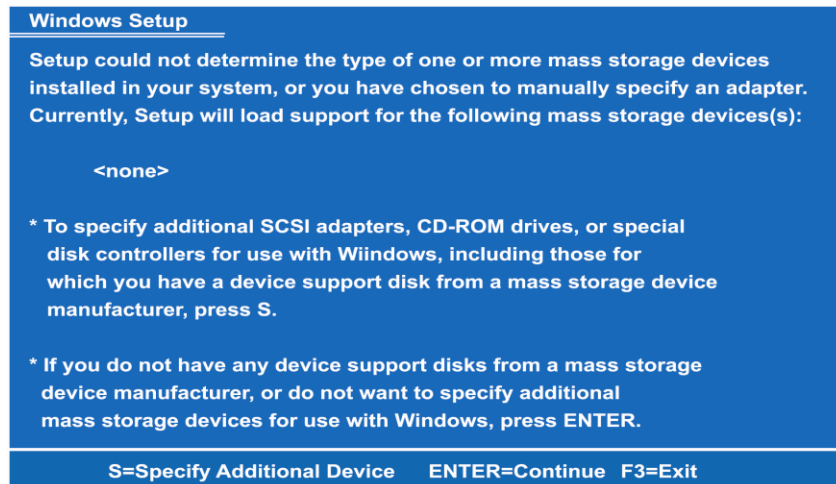

Figure 12
- (5)-2 When you see the screen below, insert the floppy disk containing the SATA driver and press "S" (as Figure 12).